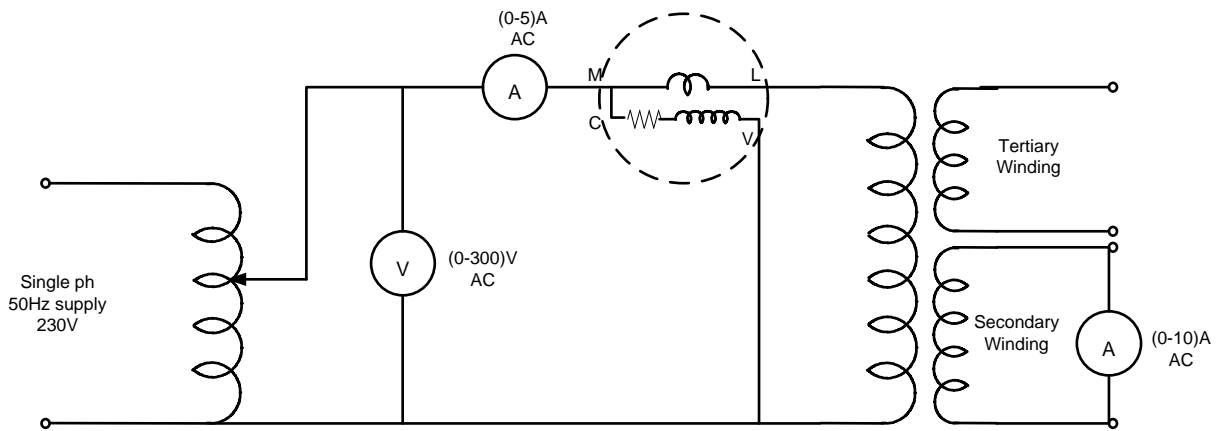

Figure 1:- Circuit Diagram for measurement of leakage impedance ( $Z_{ps}$ )
- Connect the circuit as shown in figure 1(circuit for calculating  $Z_{ps}$ , similarly connect for other two cases).